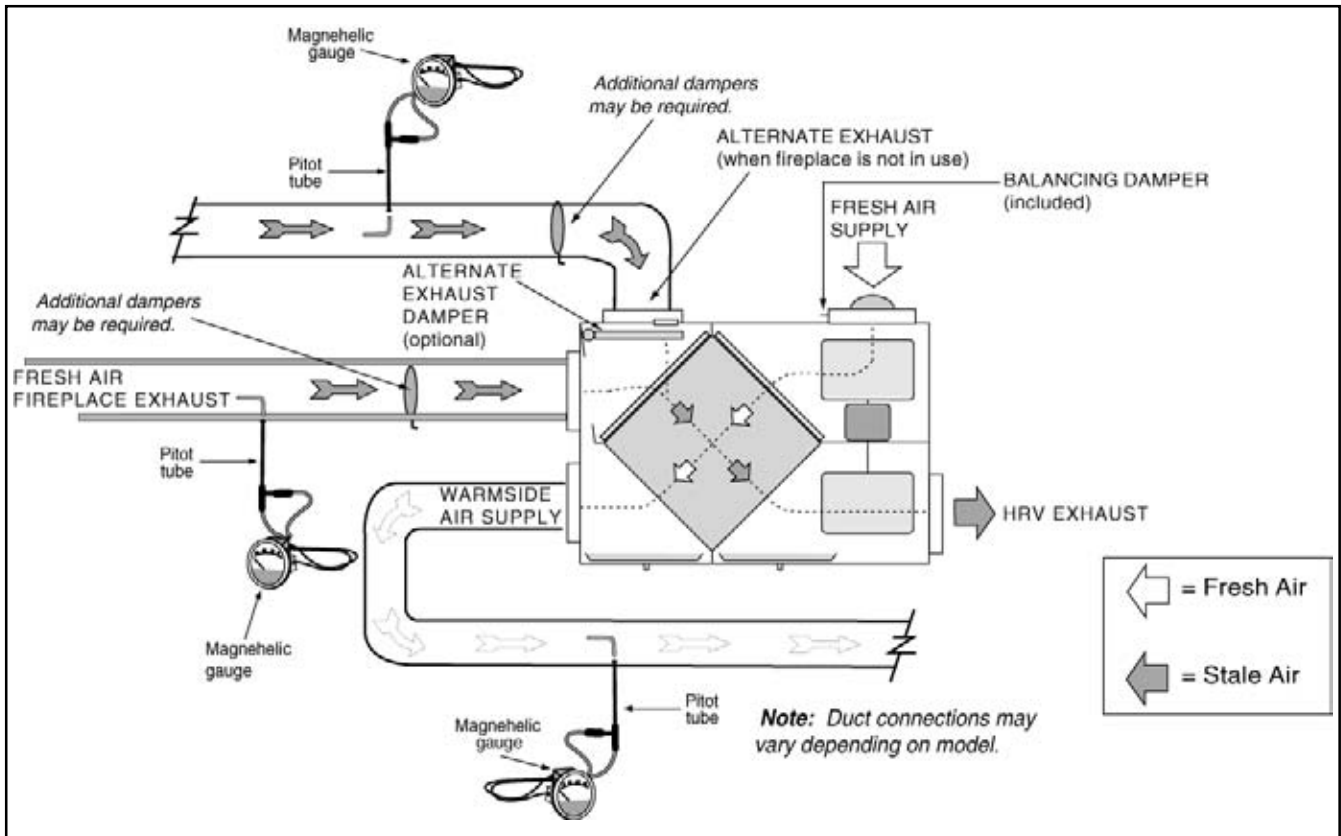

Figure 16 - Pitot Tube Balancing
**3. Pitot Tube Balancing Procedure** (see Figure 16)
The accuracy of the air flow reading will be affected by how close to any elbows or bends the readings are taken. Accuracy can be increased by taking an average of multiple readings as outlined in the literature supplied with the pitot tube. See Figure 16.